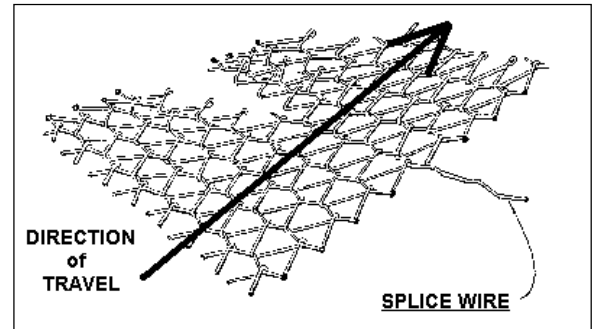
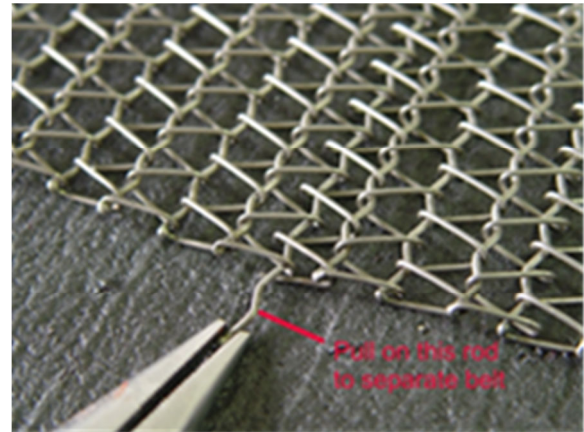
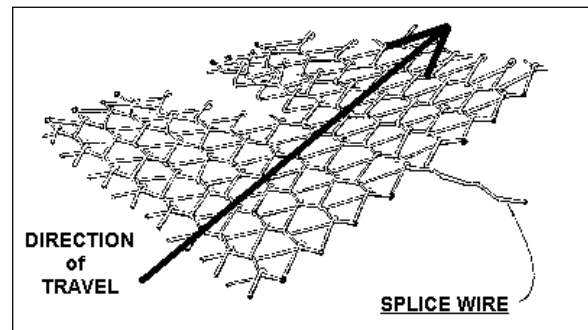

Figure 7-23 Belt Splice
Figure 7-26 Insert Splice Wire
Figure 7-27 Belt Splice
1. Place the new belt section parallel and slightly overlapping the edge of the remaining belt on the furnace. Make sure to orient the belt as shown in Figure 7-23.
2. Splice as shown in Figure 7-23 and Figure 7-26 by inserting one of the cross-section wires through the belt mesh across the width of the belt. Insert a second wire at the other end of the splice to the rest of the belt.
- Splice the belt by inserting one of the cross-section wires through the belt mesh across the width of the belt as shown in Figure 7-26 and Figure 7-27 .